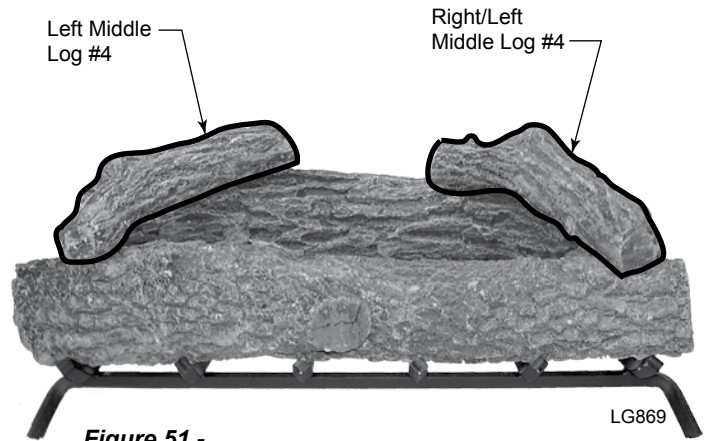

Figure 51 - Place Right/Left Middle and Left Middle Logs
3. Position Right/Left Middle Log #4 on top right of Log #1 and Log #2. *Figure 51*
4. Place Right/Left Middle Log #4 on top left of Log #1 and Log #2. *Figure 51*